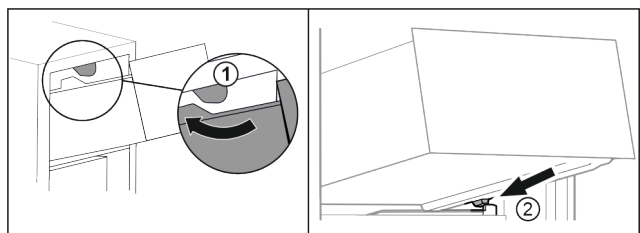

Fig. 83
- ▶ Guide drawer around the upper stoppers. Fig. 83 (1)
- ▶ Place drawer at an angle behind the lower stoppers onto moulded rib. Fig. 83 (2)